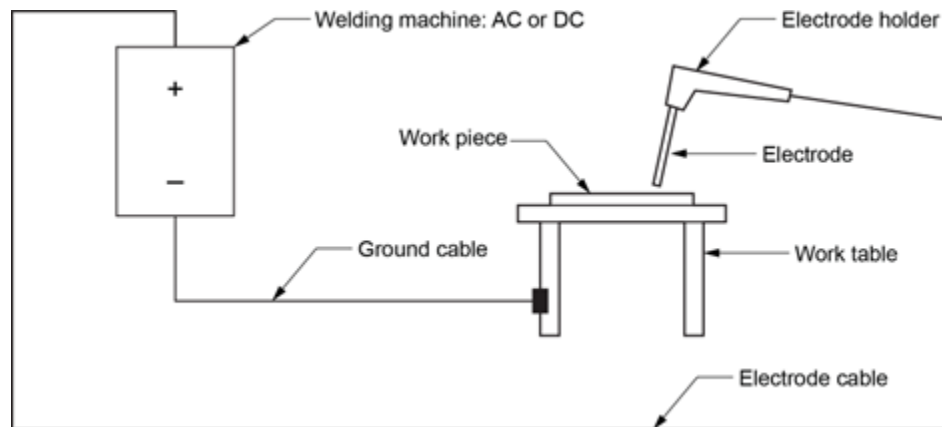

Figure 8 Arc welding circuit (BC Industry Training Authority, 2019). CC BY-NC-SA 4.0 (<https://creativecommons.org/licenses/by-nc-sa/4.0/>)
- **DCEN** (DC electrode negative) connects the welding circuit so that the electrode is attached to the negative pole of the power source to concentrate heat in the workpiece (Figure 8)